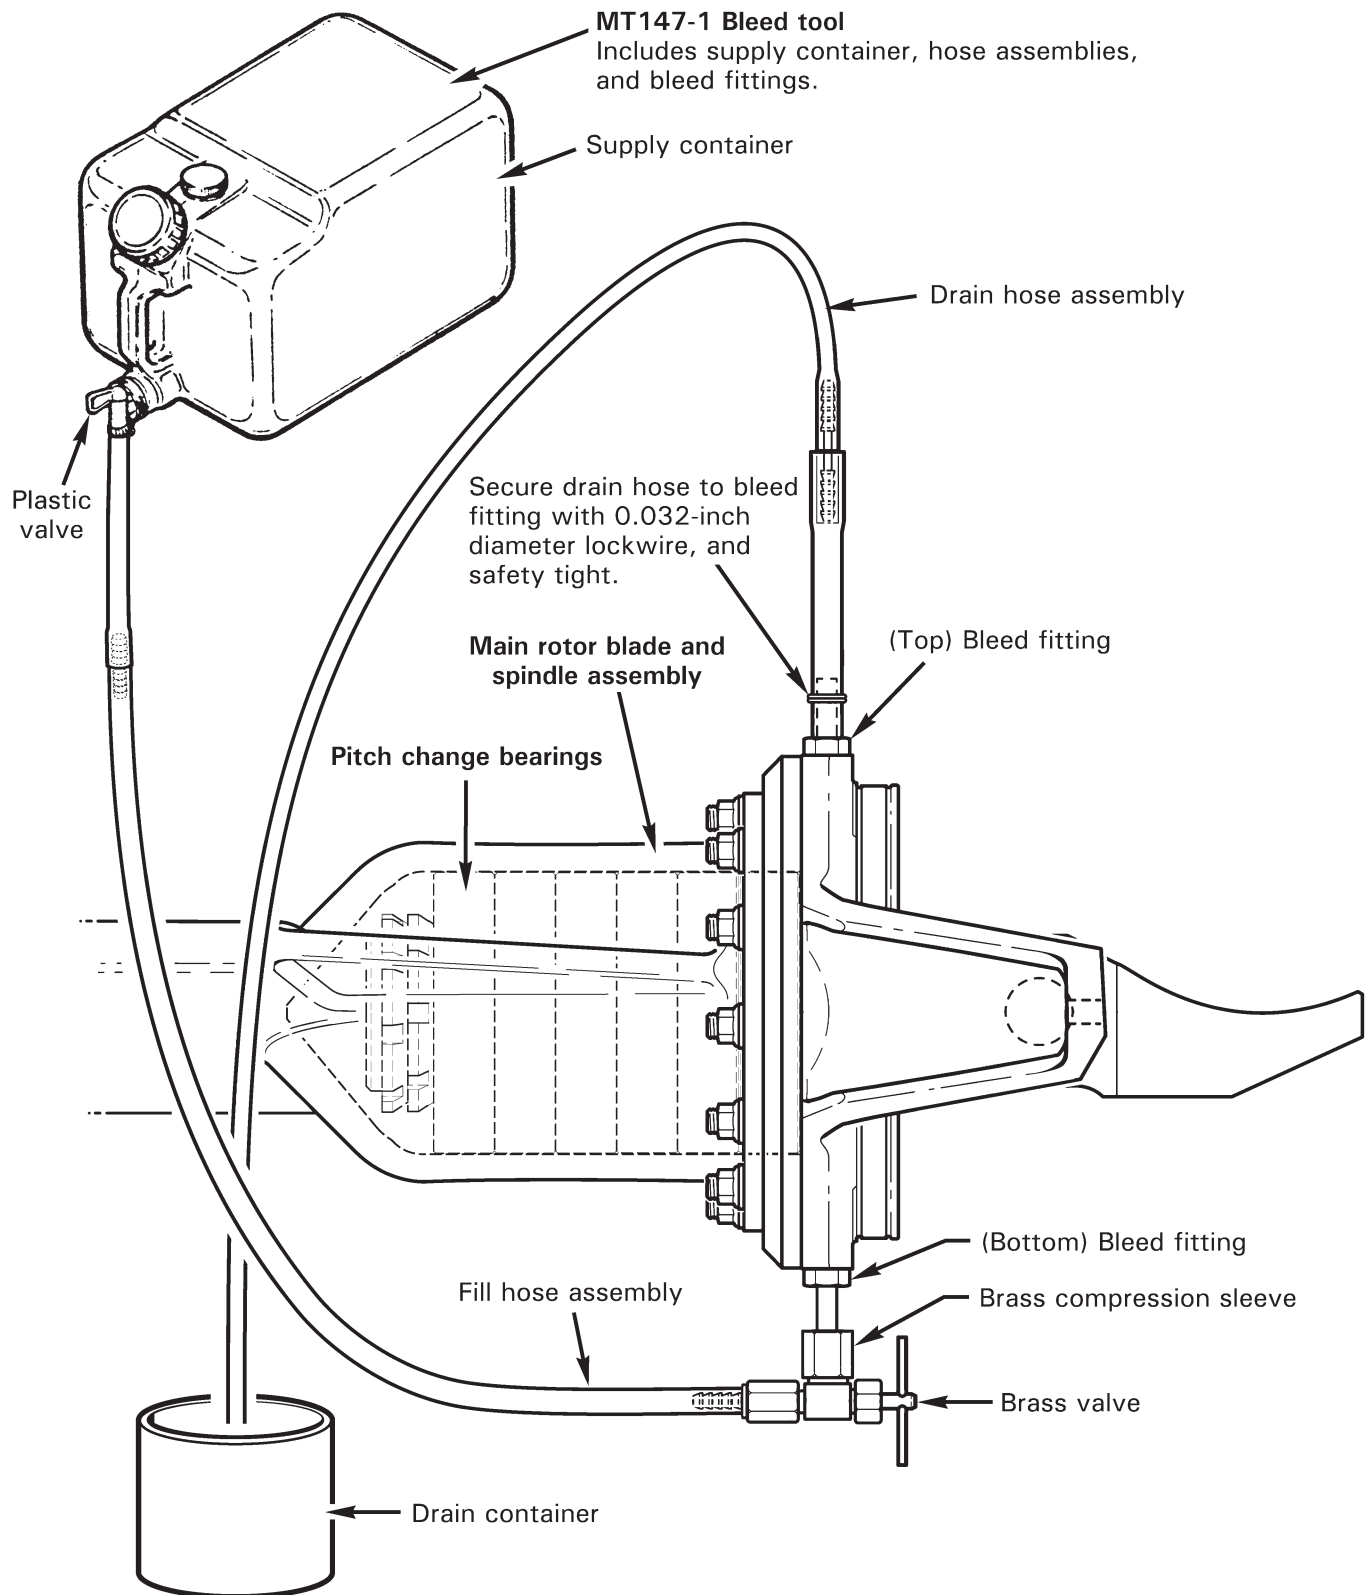

FIGURE 12-5 MAIN ROTOR BLADE PITCH BEARING HOUSING
2. Refer to Figure 12-5. Place a suitable drain container below main rotor blade spindle assembly. Remove two B289-2 bolts and drain fluid.